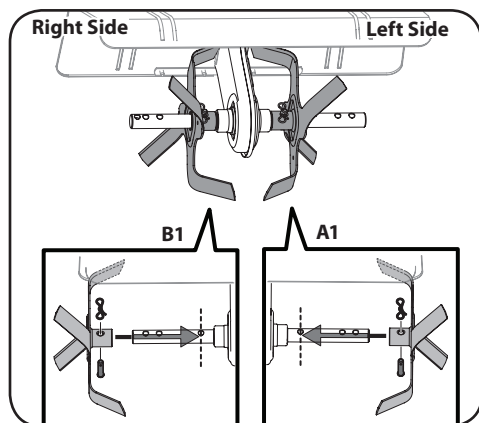

Figure 3-1
- Use two clevis pins and two cotter pins from the manual bag. From the FRONT of the tiller install the inner LH tines (A1) onto the inner left side of the shaft. Install the inner RH tines (B1) onto the inner right side of the shaft. See Figure 3-1.